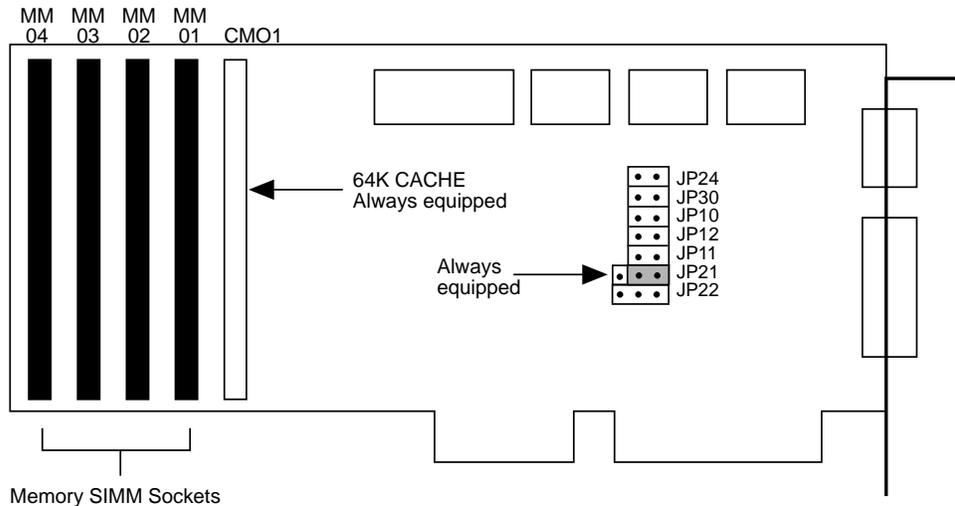

Figure 10-1. SIMM Sockets on the 386 CPU Circuit Card
The 386 CPU circuit card can support up to 12 Mbytes of memory packaged on single in-line memory modules (SIMMs). The SIMMs are 4-Mbyte modules. A minimum of 12 Mbytes (3 4-Mbyte SIMMs) is always equipped. SIMM sockets are provided at the end of the circuit card as shown in Figure 10-1.
2. 386 CPU — Remove the *highest installed* SIMM from the card. For example, if you have MM04 installed as shown in Figure 10-1, remove it first).